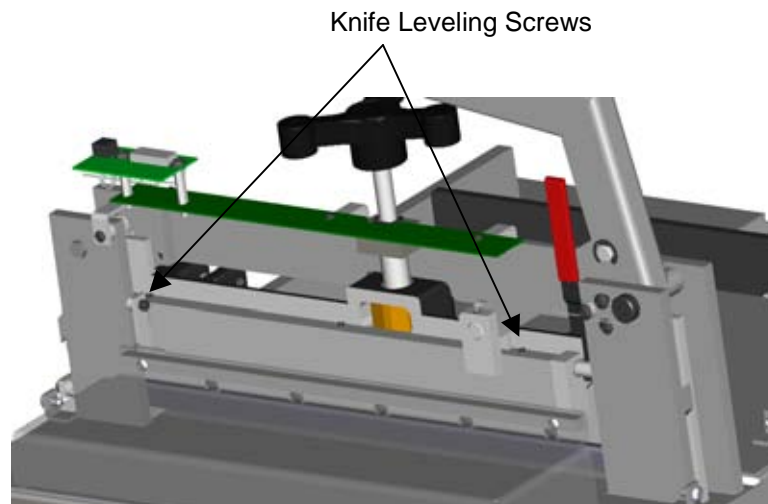

Figure 13
6. Adjust the knife leveling screw (Figure 13) that corresponds with the side of the knife that does not cut completely through. Re-tighten all screws and cut again. Continue adjustment until sheets are cut completely through without great effort.